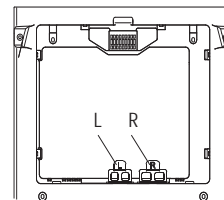

Figure 5
- Re-install the water filters (4) and make sure they are installed in the right position. (Figure 5)